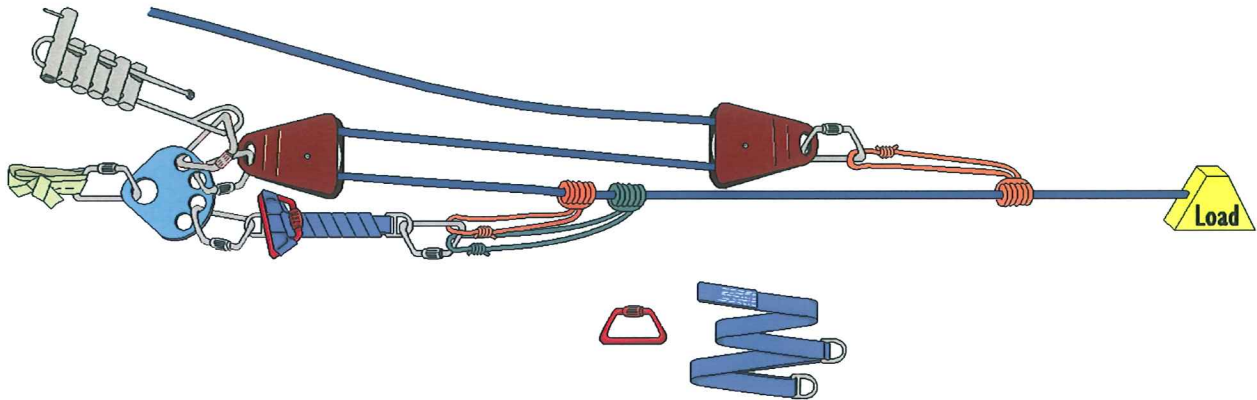

Figure 12-20: Reconstruct or Replace the LRD
- Reconstruct or replace the LRD according to manufacturer's instructions. (Figure 12-20)